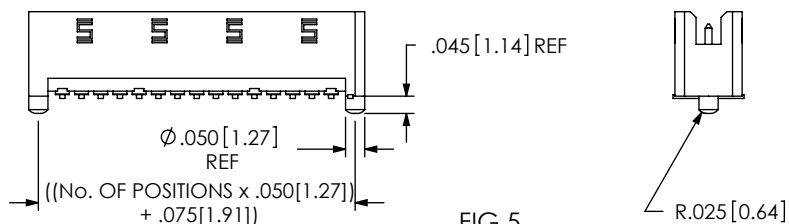

FIG 5
- A: ALIGNMENT PIN (USE TFM-XX-S-01-A) (NOT AVAILABLE WITH -WT OPTION) (SEE FIG 5, SHEET 2)